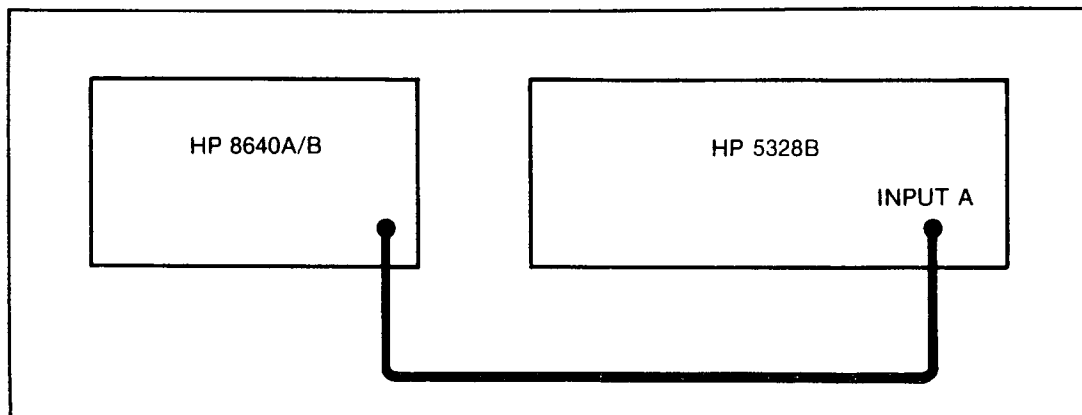

Figure 4-15. START/STOP — Test Setup
- a. Set up equipment for this test as shown in *Figure 4-15*.